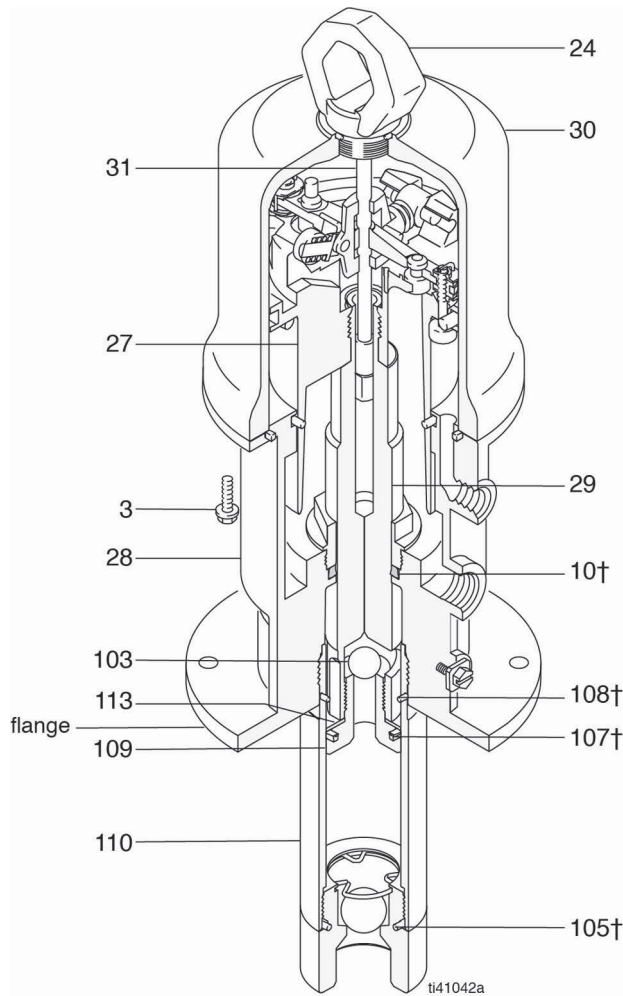

FIG. 3
Refer to FIG. 3 for the following instructions.
15. Grip the trip rod (31) with padded pliers, screw the lift ring (24) onto the trip rod, push the lift ring down, and screw it into the top of the cylinder.
16. Install the u-cup packing (107†) with the lips facing up, and place the piston washer (113) on the piston/valve seat (109). Make sure that the lips of the u-cup packing face up (FIG. 3)
17. Place the piston ball (103) in the piston rod (29).
18. Clean the threads of the piston/valve seat. Apply thread locking compound to the threads (109), and thread the assembly from step 16 onto the piston rod (29).
19. Clamp the flats of the piston/valve seat (109) in a vise, and torque the piston rod (29) to the piston valve seat to 40 to 60 ft.-lbs (54 to 81 N•m).
20. Clamp the air motor base (28) in a vise horizontally by closing the vise jaws on the flange.
21. Use a strap wrench to screw the displacement pump cylinder (110) to the air motor base (28), and torque to 95 to 105 ft.-lbs (129 to 142 N•m).